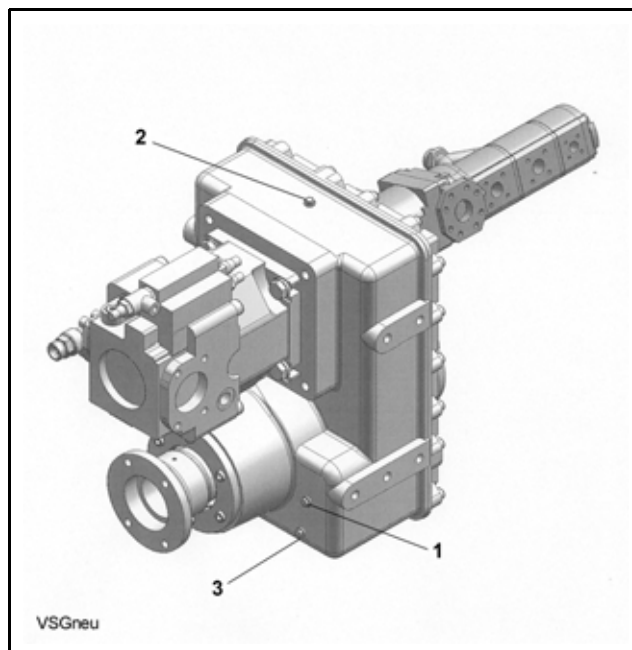

Fig. 295 Distribution manual transmission gear
- Unscrew the inspection plug (1) (**Fig. 295**).
- If necessary, top up oil through the filling and breather screw (2) until it overflows at (1).
- Wash screw (2) with fuel and blow out with compressed air.